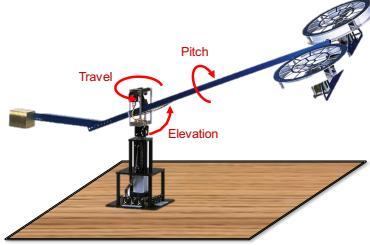

Figure 13: 3 Degree of freedom (3DOF) helicopter.
3DOF helicopter (displayed in figure 13) is a simplified helicopter model, ideally suited to test intermediate to advanced control concepts and theories relevant to real world applications of flight dynamics and control in the tandem rotor helicopters, or any device with similar dynamics [3]. It is equipped with two motors that can generate force in the upward and downward direction, according to the given actuation voltage. It also has three sensors to measure elevation, pitch and travel angle as shown in Figure 13. We use the linear model of this system obtained from the
For 3DOF helicopter, the safety region is defined in such a way that the helicopter fans do not hit the surface underneath, as shown in Figure 13, while respecting the maximum angular velocities. The linear inequalities describing the safety region are given in (1) which is in the form of  $H_x \cdot x \leq h_x$ . In equation (1), the first two rows of the matrix  $H_x$  and vector  $h_x$  specify the set of pitch and elevation angles such that the helicopter does not contact with the surface.